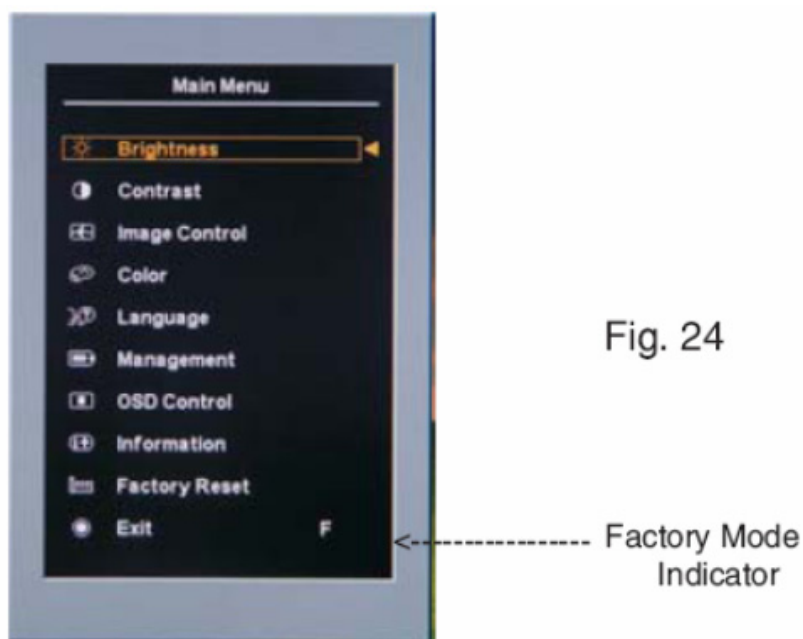

Fig. 24
- 2). [Push "Auto Adjust " and " +(plus)" and hold them at the same time] + [Press power "Power " button until comes out "Windows screen"] => then release all button, then press "Menu" button, wait until the OSD menu with Characters "F" (below OSD menu) come on the Screen of the monitor (see Fig. 24).